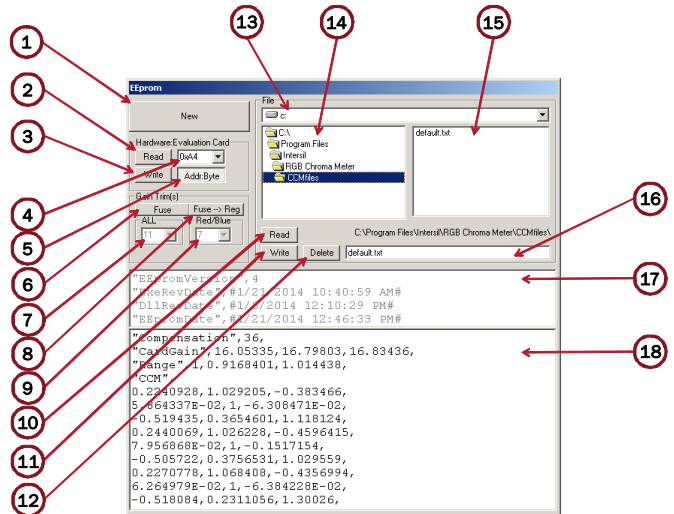

FIGURE 13. EEPROM LOAD CCM (CORRECTION COLOR MATRIX) FILE
2. If the cross-point does not display to match with the color temperature light bulb, the user needs to check x, y and z values at left GUI panel. If x, y and z are all -1, Color Correction Matrix (CCM) did not load properly. The user should click on the “CCM” button at top left corner in the GUI Panel. Another pop-up window will display as shown in Figure 13.
5. User should copy the CCM, which is highlighted in Green color “EEPromVersion3” then paste into item 14 shown in Figure 13.
6. Click “Write” at item 3 then “Read” at Item 2 to configure the EEPROM on the evaluation board.
7. Click “Write” at item 7 then “Read” at item 6 to save CCM into file.